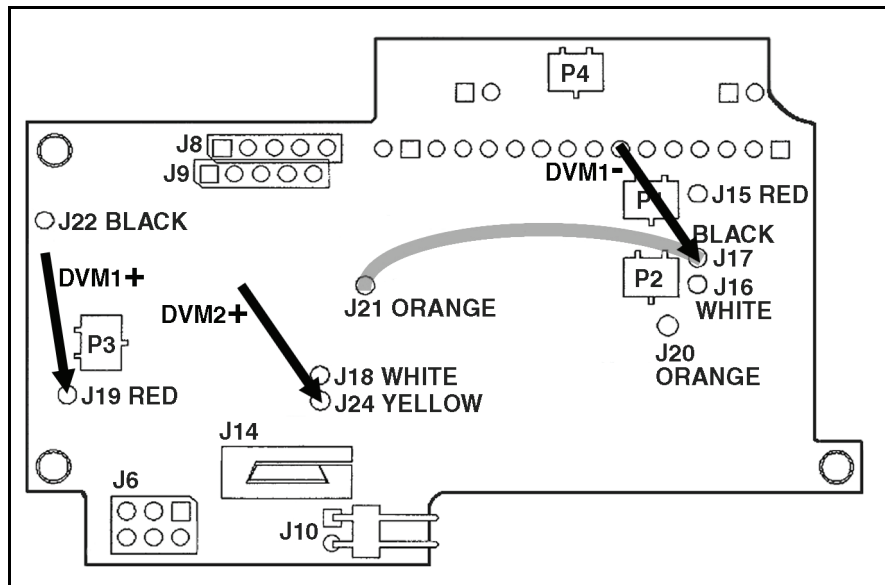

Figure 7-7. Air Sensor Calibration
1. Refer to Figure 7-7. Connect one mini-clip jumper from the black test post at J17 to the orange test post at J21.
2. Refer to Figure 7-7. Connect the DVM test leads as follows: